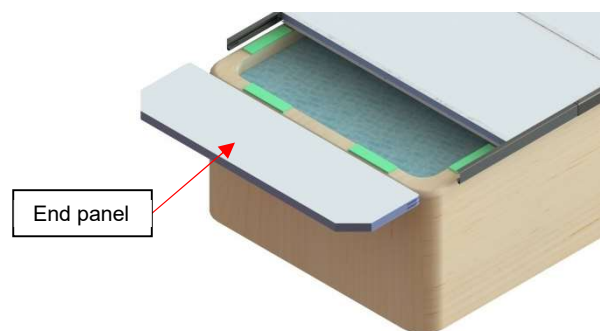

Figure 73
26) Insert one of the end panels with the tapered end toward the end of the cover. The end panels are tapered with a 45-degree cut. (Figure 73).